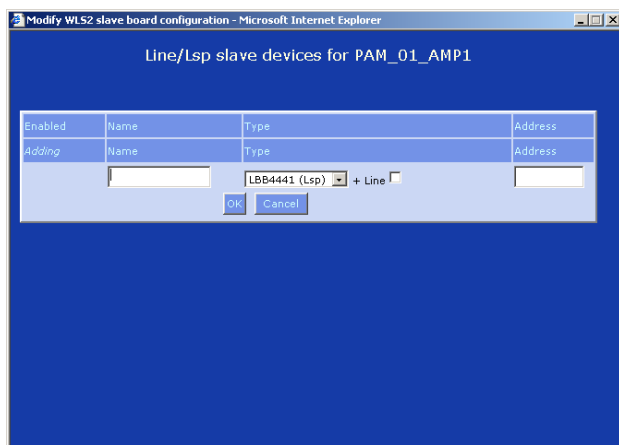

figure 34.14: Add slave device, step 2
- 2 Click the *Add* button to add a new slave device to the audio output. A screen similar to the one in figure 34.14 appears.